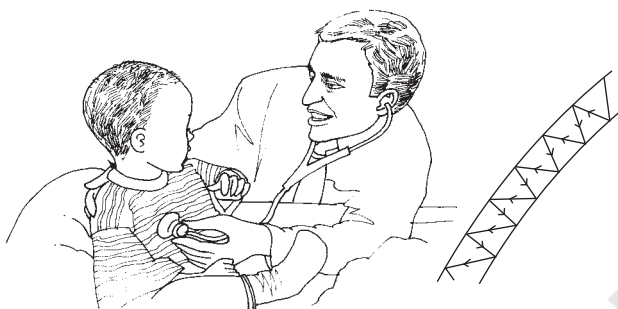

Fig. 11.11: Stethoscope
2. **Stethoscope** is a medical instrument used for listening to sounds produced within the body, mainly in the heart or lungs. In stethoscopes the sound of the patient's heartbeat reaches the doctor's ears by multiple reflection of sound, as shown in Fig. 11.11.